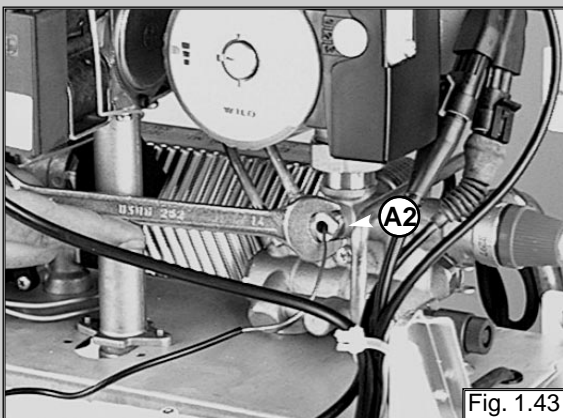

Fig. 1.43
2. Release coupling "A2" using a 14 mm open ended spanner (see fig. 1.43);